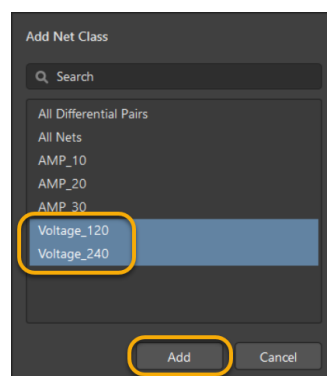

Figure 9. Add Net Classes
31. Select the class Voltage_120 and Voltage_240 that you created. Select **Add** to add the classes to the *Constraint manager*. See Figure 9.